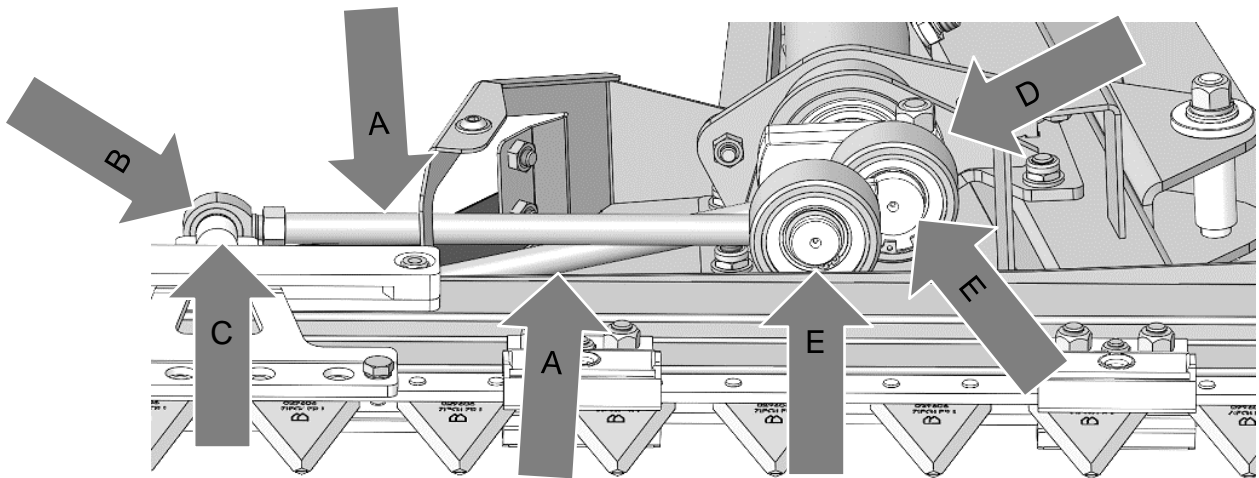

Fig. 7
**It is essential that the crankshaft is adjusted so that the dead centre is reached. Only then may the fastening screw (C) of the rubber-metal bushing be tightened. (see Fig. 7)**